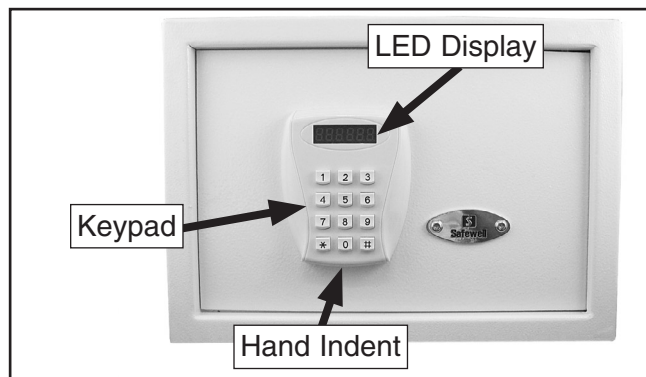

Figure 2. Safe digital keypad (Model T21543 shown).
2. Use the digital keypad to enter a four-digit personal code of your choice, then press the "#" key to activate the locking mechanism (see **Figure 2**). The LED window will display the word "**CLOSEd**", then your personal code will be displayed for a few seconds.